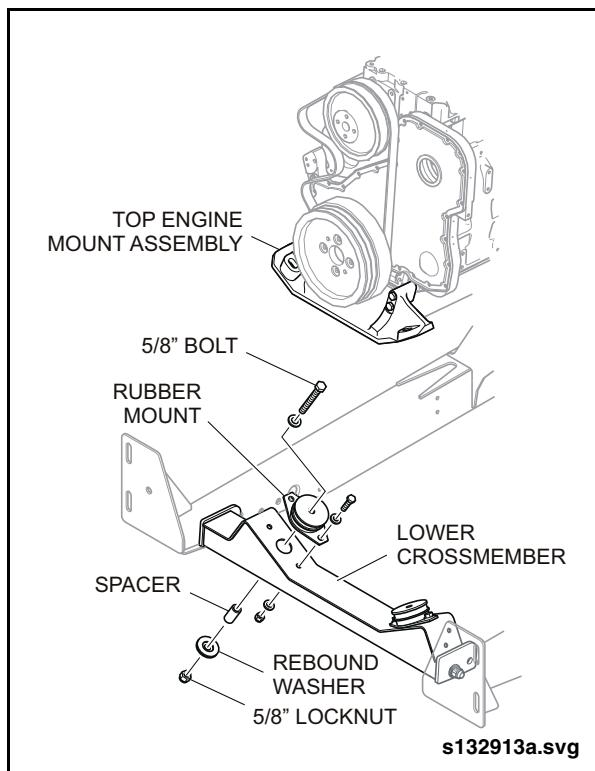

Fig. 4-10: Front Engine Mounts
5. Remove the 5/8" bolt, flat washer, engine rebound washer, spacer, and lock nut that secure the rubber mount to the top engine mount assembly and lower crossmember assembly. See "Fig. 4-10: Front Engine Mounts" on page 15.